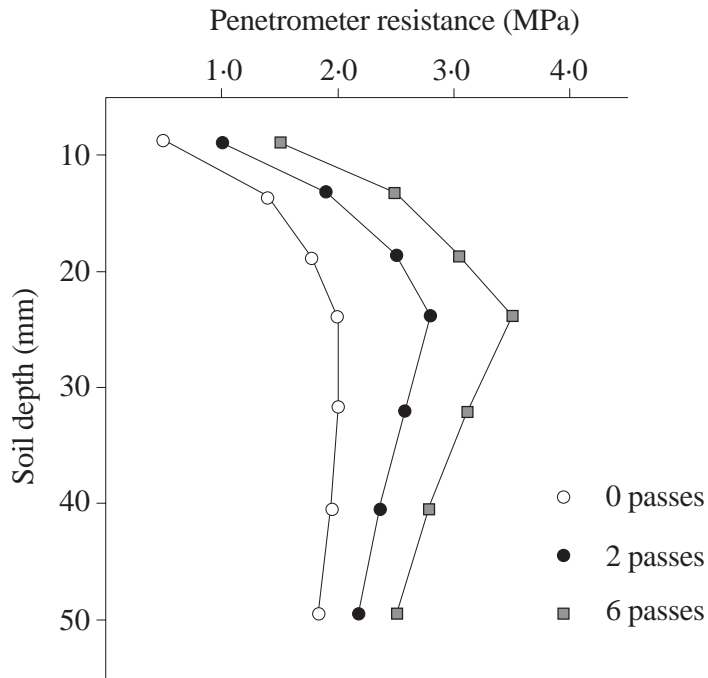

FIG. 2. THE EFFECT OF THE NUMBER OF TRACTOR PASSES ON SOIL PENETRATION
- (ii) The graph in Figure 2 shows the effect of the number of tractor passes on soil penetration.